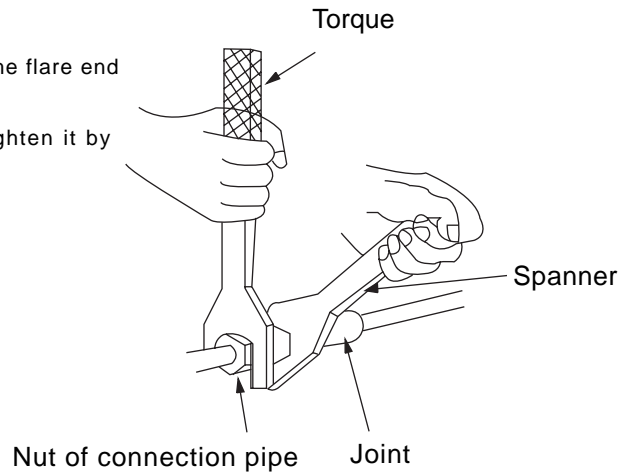

Fig.9-7
- Tighten nuts on connecting pipe with force then tighten it by spanner. (As shown in Fig.9-7)